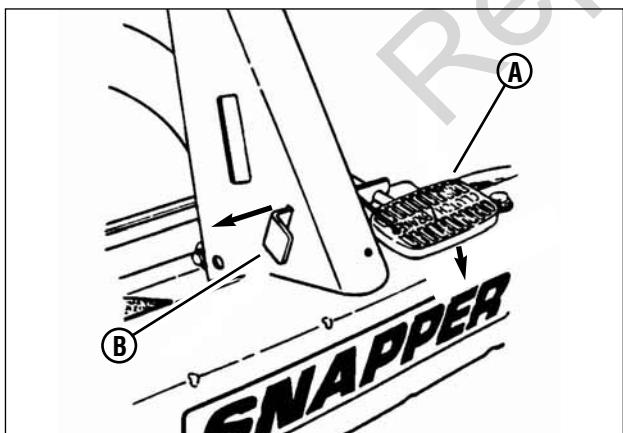

Figure 17: Releasing the park brake
2. Release the park brake by pressing down firmly on the clutch/brake pedal (**A**, **Figure 17**). The park brake latch (**B**) is spring-loaded, and will slide back to the disengaged position unassisted.